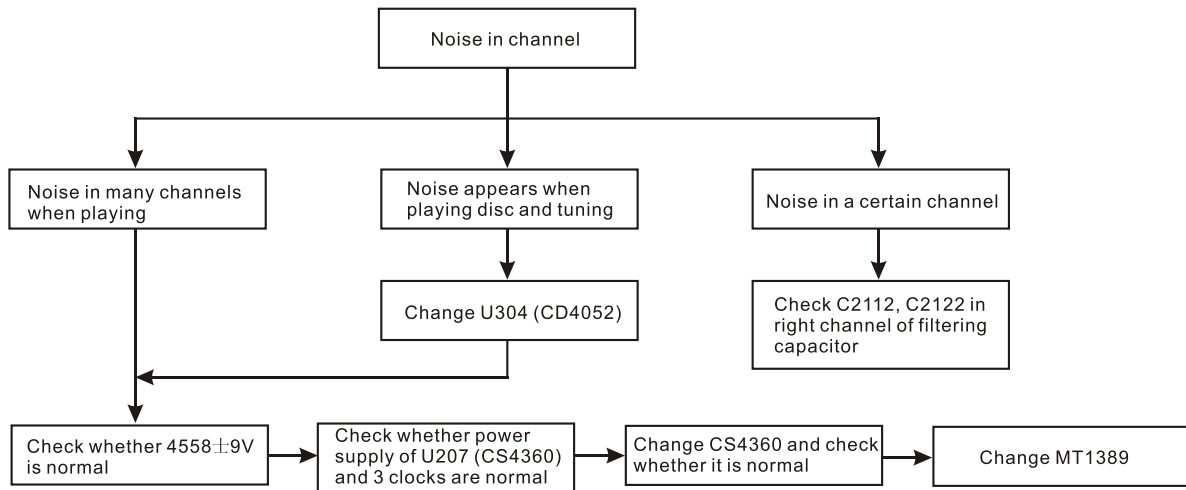

Figure 3.5.9.1 Troubleshooting flow chart for noise in channel
3.5.9 Troubleshooting process for noise in channel is shown as the following figure 3.5.9.1: